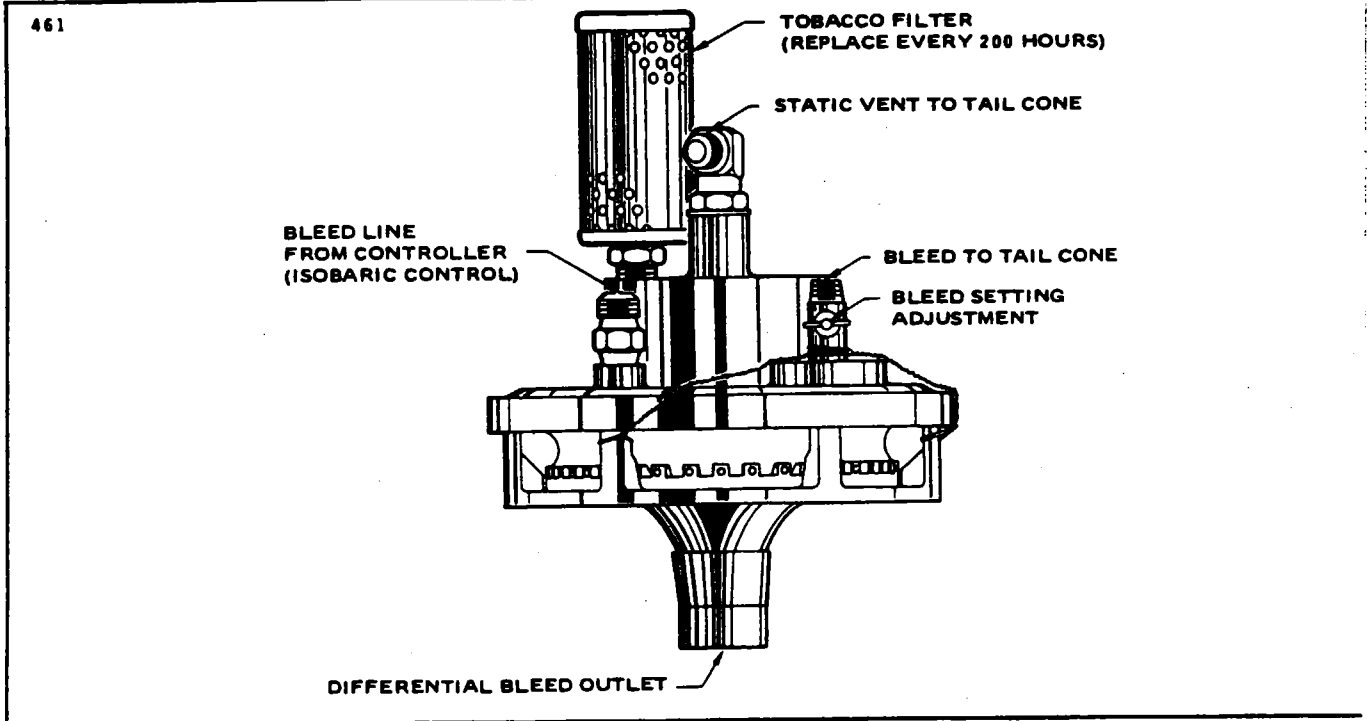

Figure 13-35. Isobaric Valve
13-126. ISOBARIC AND SAFETY VALVE SETUP. (Refer to Figure 13-35 and 13-36.) The following information should prove most helpful in obtaining the best adjustments of the isobaric and/or safety valves.
b. The bleed screw on the isobaric valve should be adjusted one turn open (counterclockwise) from the closed position (full clockwise). (Refer to Figure 13-35.)
a. During the ground runup, check that the isobaric valve is fully open. This indicates that vacuum is being applied to the inside of the valve. When the test switch is activated the vacuum is released, check that the diaphragm falls to a position where the sipes just touch the top of the castellations on the valve. (Refer to Figure 13-35.)